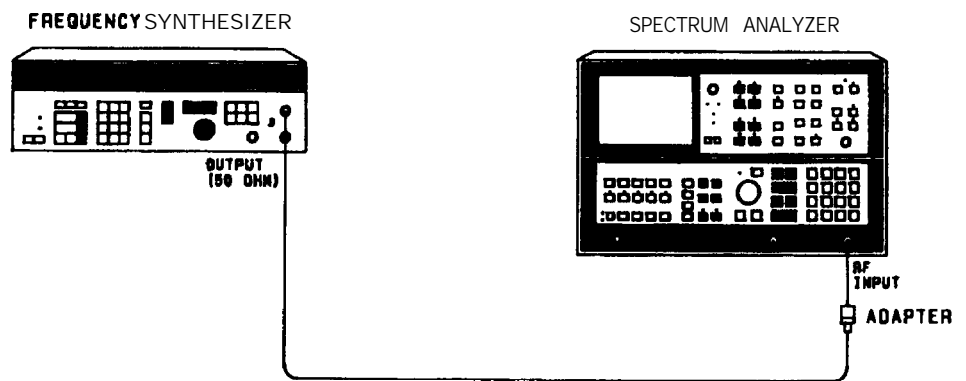
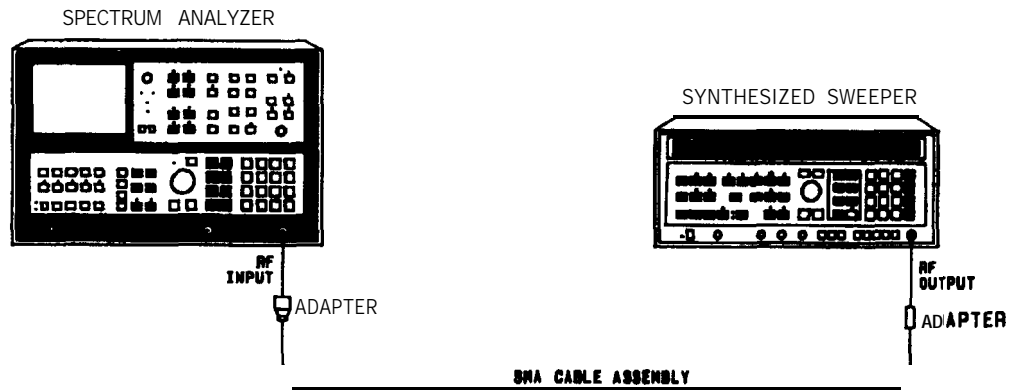

Figure 2-3. Narrow Span Test Setup
Figure 2-4. Wide Span Test Setup
Note Equipment listed is for two test setups, Figure 2-3 and Figure 2-4.
2. Connect equipment as shown in Figure 2-3.
9. Disconnect the frequency synthesizer from the analyzer input. Connect equipment as shown in Figure 2-4.